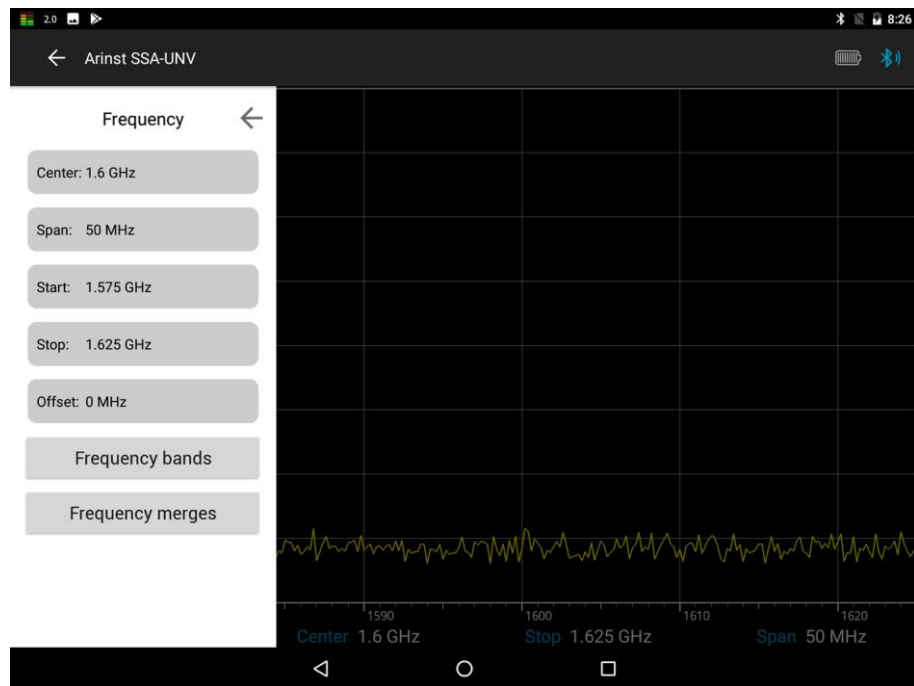

Figure 78 – Selecting the “gluing” mode of ranges
9.5.1. To simultaneously display several frequency bands on the tablet / smartphone screen, enter the frequency range operating menu **Frequency**, and select the **Frequency merges** tab, figure 78.